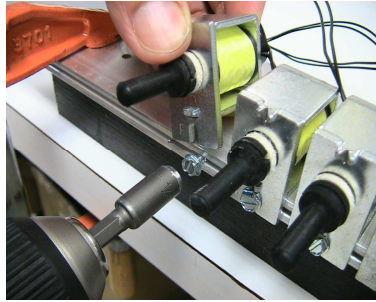

Figure 10A
- C.** Next, place a short stem solenoid (back wire) on the flat side of the solenoid rail at the first screw. (See fig. 10a)